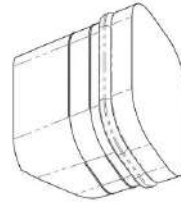

Figure 5-8
- Cover the new prism gasket sleeve onto the prism and ensure that the gasket sleeve is uniform (see Figure 5-8);